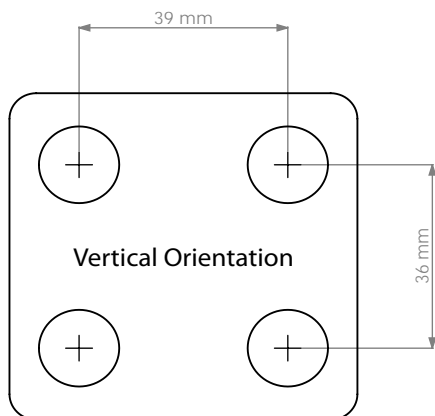

Figure 3.
- The backing plates do not have uniform hole placement and vertical orientation needs to be determined. Refer to Figure 3 for the proper orientation of the backing plate.